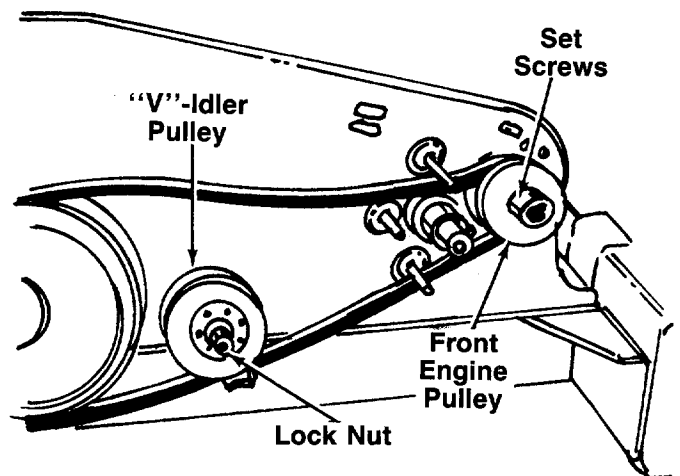

FIGURE 24.
3. Loosen the two set screws on the front engine pulley. See figure 24.
4. Remove the lock nut on the "V"-idler pulley. See figure 24.